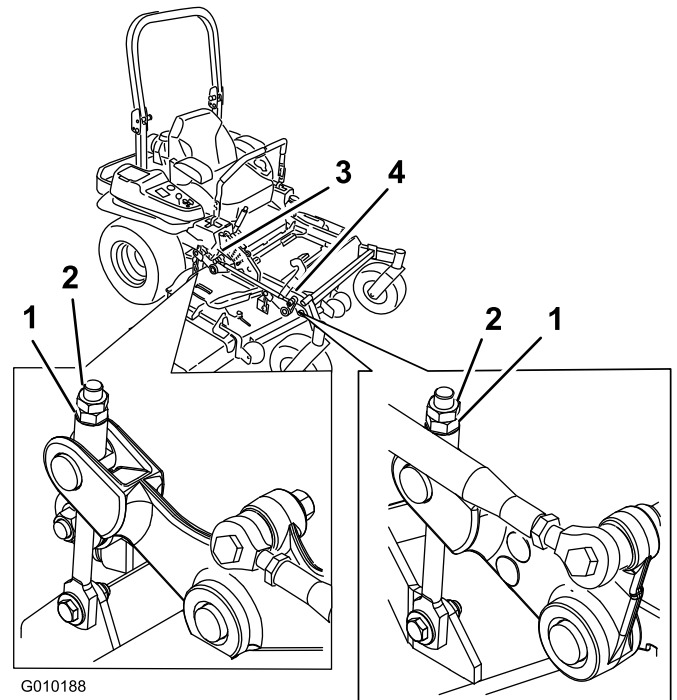

Figure 91
10. Fine-tune the adjustment nut on the front deck lift assembly by turning it (Figure 91).
16. Fine-tune the adjustment nut on the front deck lift assembly by turning it (Figure 91).